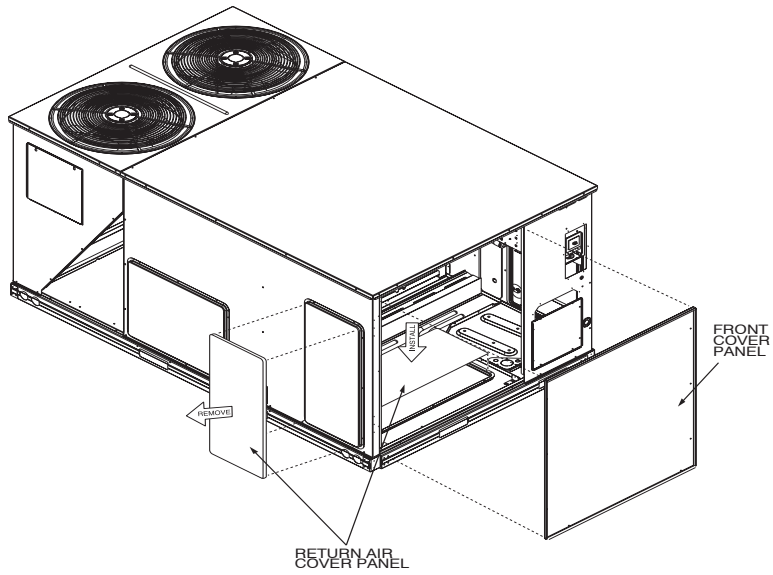

Fig. 11 – Horizontal Return Conversion (8-14 Size Shown)
3. Unscrew and remove the cover panel shipped over the rooftop unit horizontal return air opening. See Fig. 11. Reinstall the panel over the vertical air opening in the base of the rooftop unit. Repeat the process for the supply air cover if using the economizer on a horizontal supply application. This step changes the unit configuration from vertical supply and return to horizontal supply and return. Refer to the 48/50PG installation instructions for more information on converting the unit supply/return configuration.